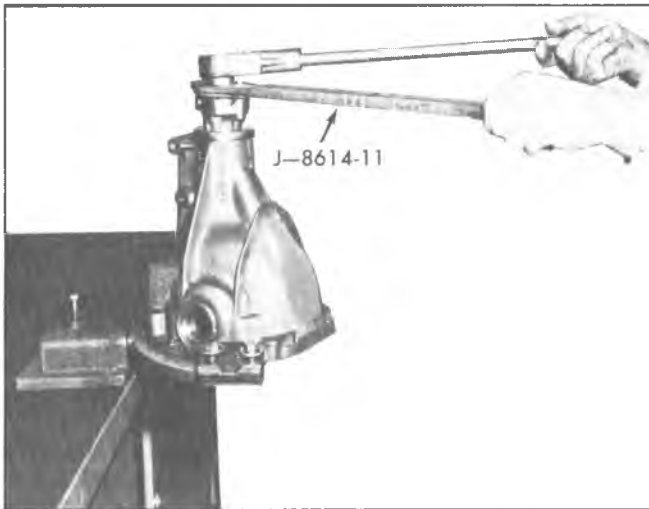

Fig. 14C—Removing Companion Flange Nut
3. Turn holding fixture over and install Holder J-8614-11 on flange by using two bolts with flat washers, as shown in figure 14C. Position J-8614-11 on flange so that the four notches are toward the flange.